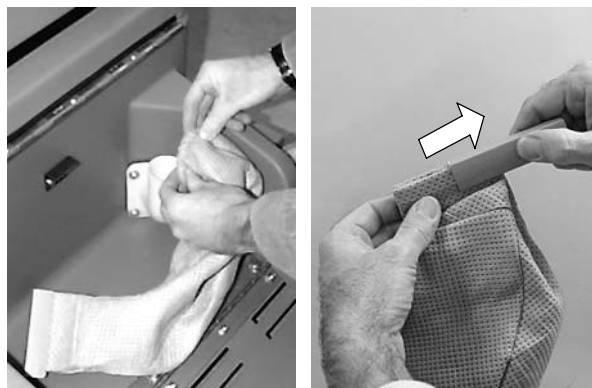

FIG. 27
- Empty or replace the dust control bag. Remove the bag clip to empty bag (Figure 27). Do not allow bag to fill beyond half full.